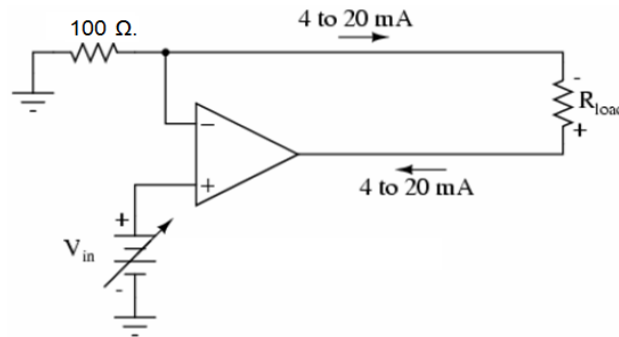

Figure 4: Voltage to current converter
- (a) **Figure 4** shows the operational amplifier that is used to convert voltage to current. Answer the following question:-
- i. Give **two (2)** examples of application that used this circuit. (2 marks)
- (c) Selecting the right sensors depends on the particular need for the parameter being measured. Before considering the criteria of the sensor, the engineer should select the right sensor based on the applications. List **four (4)** sensor selection criteria. (4 marks)